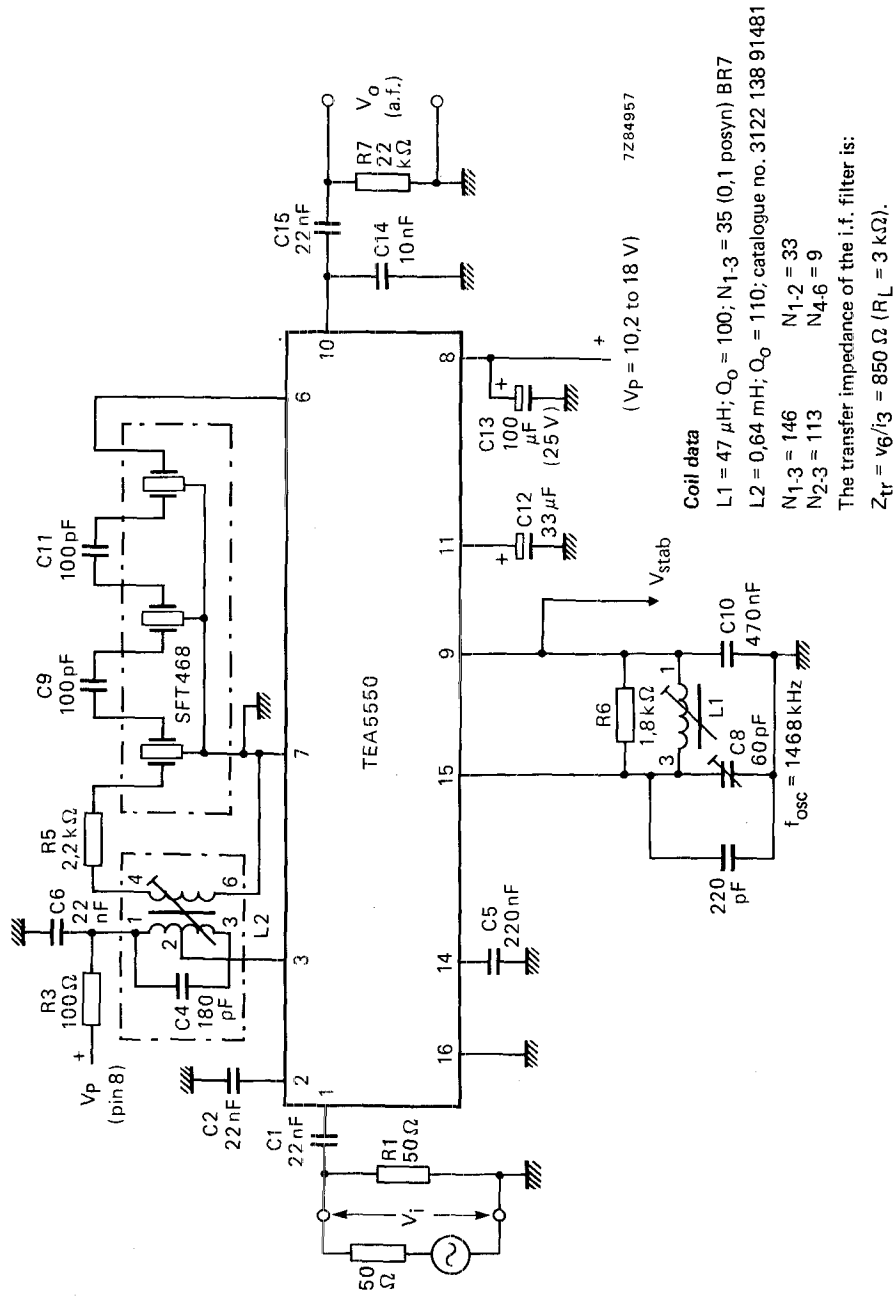

Fig. 2 AM test circuit.
D.C. CHARACTERISTICS at  $V_i = 0$  $V_P = 14,4$  V;  $T_{amb} = 25$  °C; measured in Fig. 2
$V_P = 14,4 \text{ V}$ ;  $T_{\text{amb}} = 25 \text{ }^\circ\text{C}$ ; r.f. condition:  $f_i = 1 \text{ MHz}$ ,  $m = 0,3$ ,  $f_m = 1 \text{ kHz}$ ; transfer impedance of the i.f. filter  $Z_{\text{tr}} = v_6/i_3 = 850 \Omega$  (loaded with  $3 \text{ k}\Omega$ ); measured in Fig. 2; unless otherwise specified